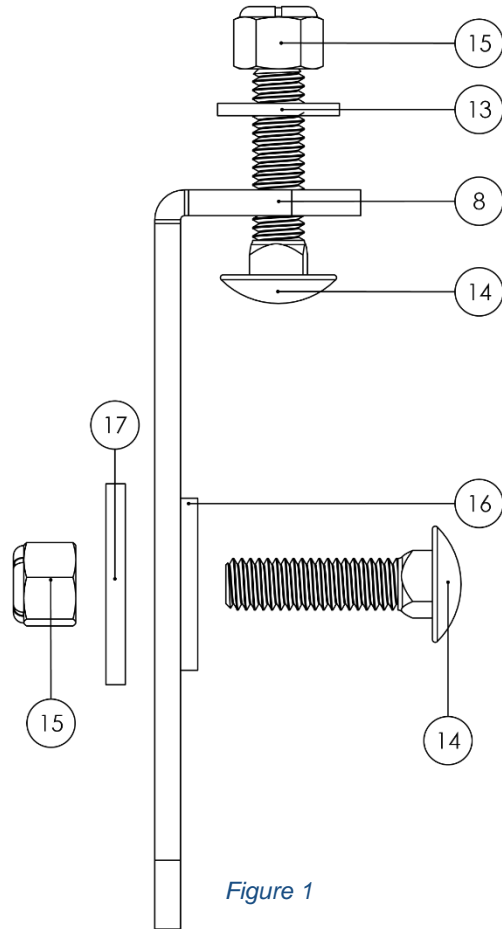

Figure 1
- Install the Stake Pocket Insert Plates.** To install the Bases (Item No. 6) you must first install the Stake Pocket Insert Plates (Item No. 8). These Stake Plates will be held by two bolt assemblies and be put together in the order as shown in Figure 1. The top bolt assembly will hold the base while the bottom will provide additional stabilization to the rack. Begin by threading the top bolt assembly onto the Stake Pocket Insert Plate but allow the Lock Nut (Item No. 15) to sit at the top of its thread. Follow up with the bottom bolt assembly by only inserting the 1.5" Carriage Bolt (Item No. 14) for now. Next, insert the Stake Pocket Insert Plate into your truck's stake pocket. It may be necessary to tilt the plate diagonally if you are having difficulties during insertion. Complete the installation by tightening both bolt assemblies at increasing firmness. If necessary, use the provided Rubber Washer (Item No. 16) to stabilize and reduce the gap between the plate and the truck's bed frame.